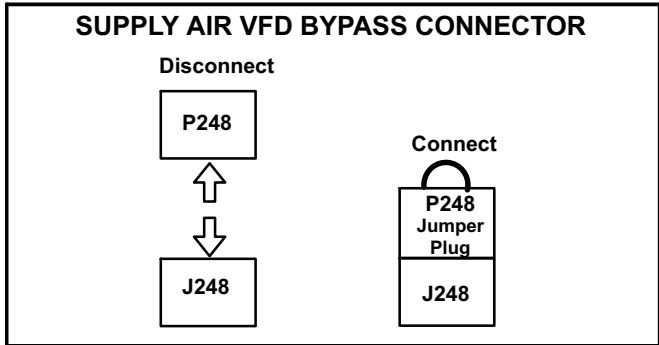

FIGURE 30
- 4- Disconnect J248 from P248 and connect connect P248 jumper plug to J248. P248 jumper plug is attached to the J248 wire harness near the J248 jack connector. See figure 30.